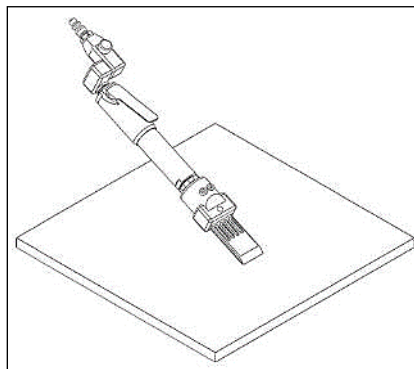

Figure 6. TSB Placement on Structure
- 3.2.1. Place the TSB on the surface of the structure from which the material is being removed. See **Figure 6**.